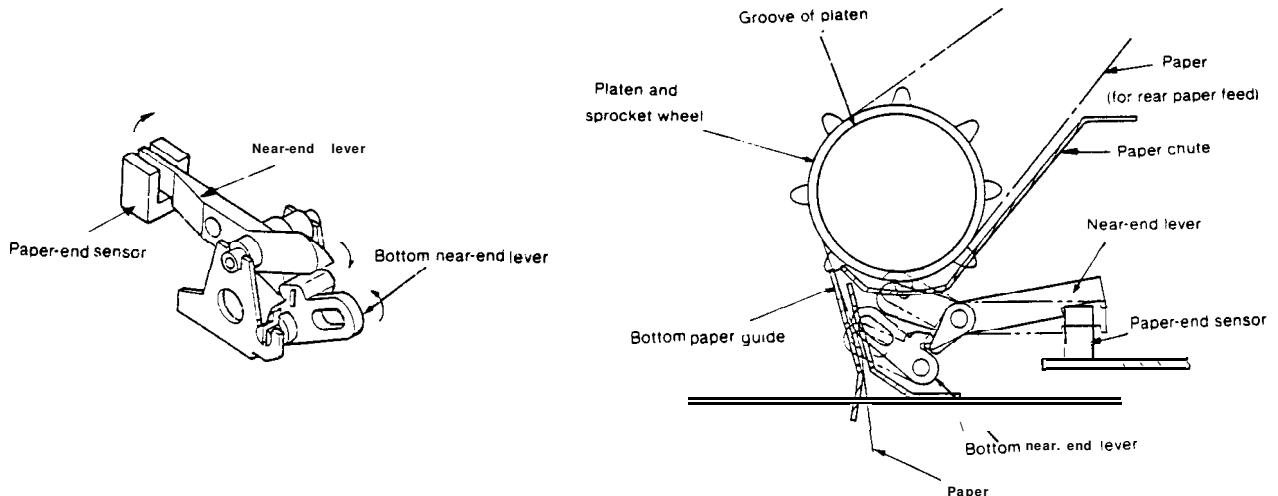

Figure 6-3 Paper-End Sensor
8. Remove paper lint and dust attached to Paper-End Sensor. See Figure 6-3.
Refer to Figure 6-3, Page 6-7 and perform adjustment as follows: